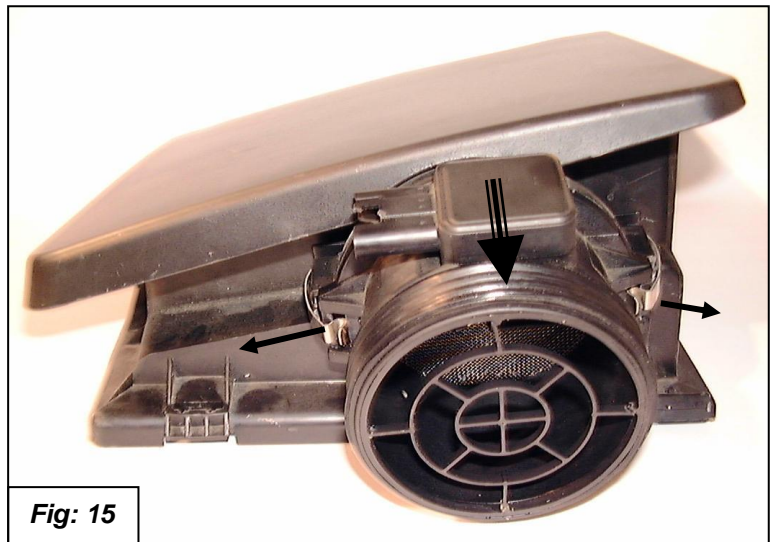

Fig: 15
21. Pry back clips for air mass meter and separate Air Mass Meter from air box lid, **be careful not to damage the grid on the Air Mass Meter.** (The air box lid will not be reinstalled on the car). See figure 15.